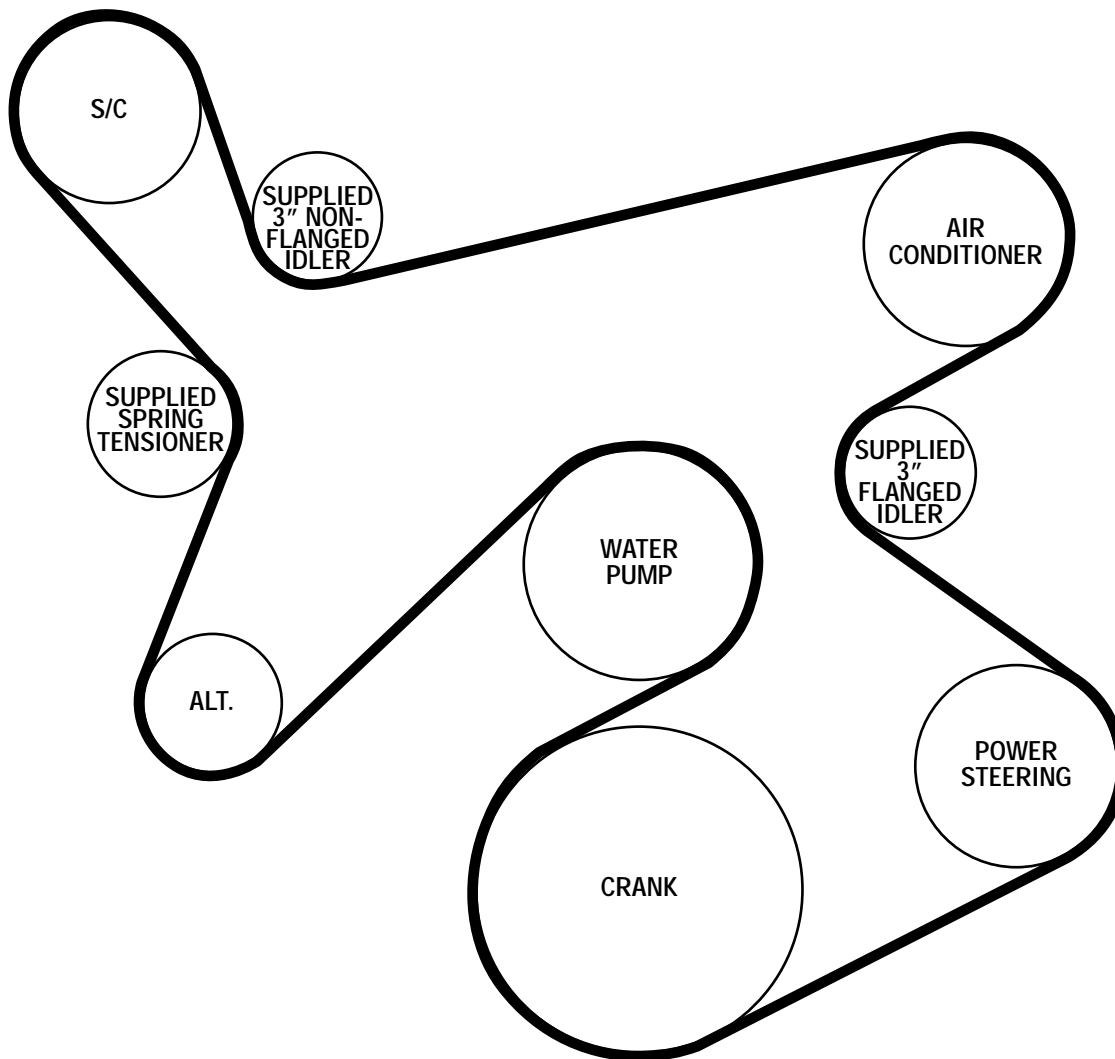

Fig. 6-a
- A. Separate the spacer and hardware from the factory idler removed in step 1. Using the supplied flanged idler and spacer with hardware mentioned above, secure the idler to the threaded boss located on the face of the air conditioner compressor pump mounting bracket. (See *Fig. 6-a.*)